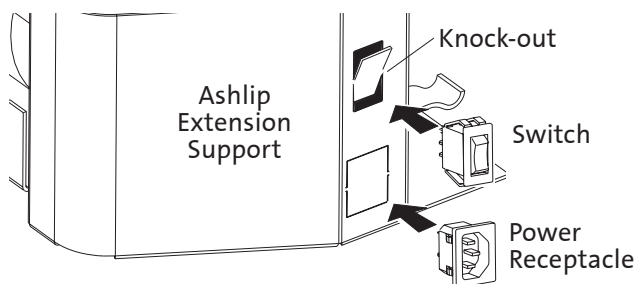

Figure 14.
- 3. Insert Switch and Receptacle:** Determine on which side of the ash lip extension you wish to install the power cord and switch. The snapstat must also be installed on that side. Use a flat head screwdriver and pliers to pry the knockouts from that ashlip support. Work from the inside, to avoid marring the outside surface. Insert the Power Switch in the upper hole. Insert the Power Cord Receptacle into the lower hole. See fig. 14.